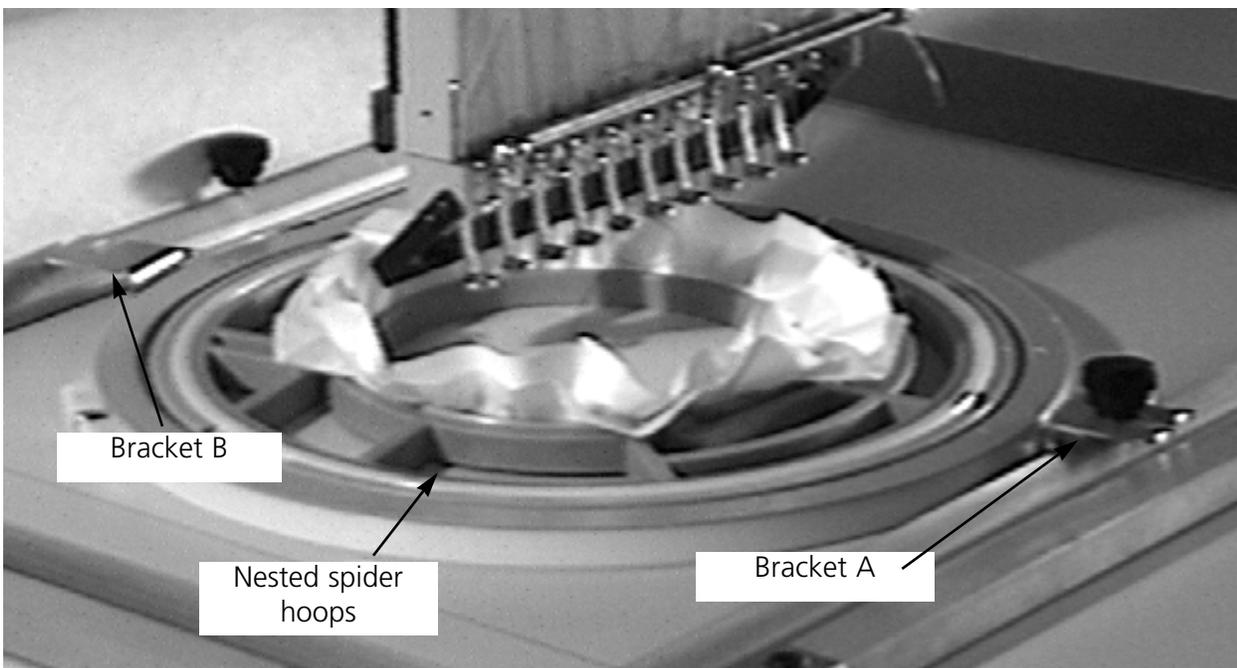

Figure 3-11
2. The 25cm hoop has two brackets. Bracket A in Figure 3-11 has a forward-facing slot, and bracket B in Figure 3-11 has a side-facing slot. Slide bracket A into place, then bracket B.